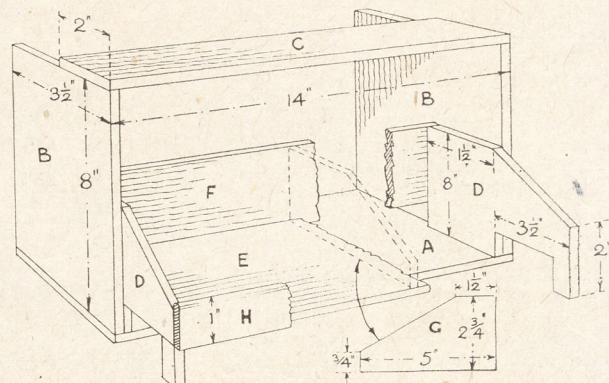

Fig. 2—Cut-away view showing constructional details
Commence construction by marking out and cutting the main floor (A) in Fig. 2. This measures 14ins. by $3\frac{1}{2}$ ins., and to this are attached the upright ends (B), measuring 8ins. by $3\frac{1}{2}$ ins. Cut all these pieces square, using for the purpose a
For the ends of the racks we shall want two pieces cut to the shape and dimensions shown on the right-hand end of the frame, as (D) in Fig. 2. After making one end, lay this on the next piece of wood and draw round it to get both shapes identical. For the interior divisions of the rack, two or three, according to the number of spaces required, will be cut to the outline
shown as detail (G) in Fig. 2. These are again of $\frac{1}{4}$ in. wood, of course.
Next mark out and cut the floor of the rack (E) in Fig. 2. This is 13ins. long and 5ins. wide, glued and nailed between the two ends (D). To the back edge of (E) and also to the back upright edges of the ends (D), the back of the rack (F) must be glued and nailed. This piece is $13\frac{1}{2}$ ins. long by 8ins. wide, and before fixing, the top edge should be rounded with coarse and fine glasspaper. The back edge of piece (C) should also be rounded off.
Space in the bathroom is often limited when there is a baby in the house. In the sketch at Fig. 2 is shown a board which will conveniently fit across the large bath and thus prevent the energetic youngster from causing so much spare water when he or she splashes about.
Curiosity Shop—(Continued from page 375) window is formed from cardboard bent up and glued in place as seen in Fig. 2.